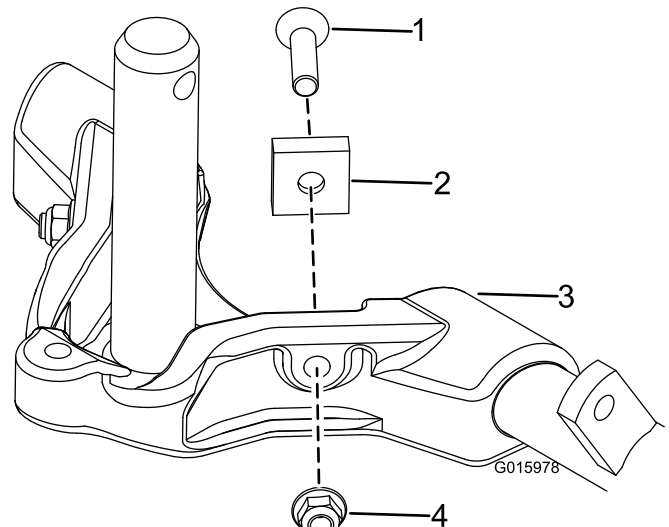
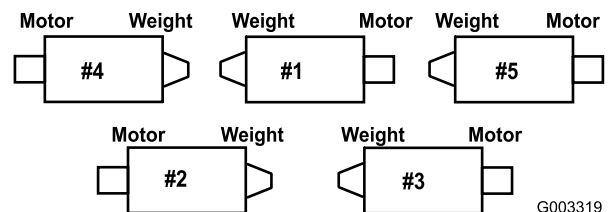

Figure 8
Figure 9
Increase the steering on the rear cutting units by removing the (2) pivot spacers, hex socket screws and flange lock nuts (Figure 8) from the rear (#2 and #3) cutting unit carrier frames (Figure 9).